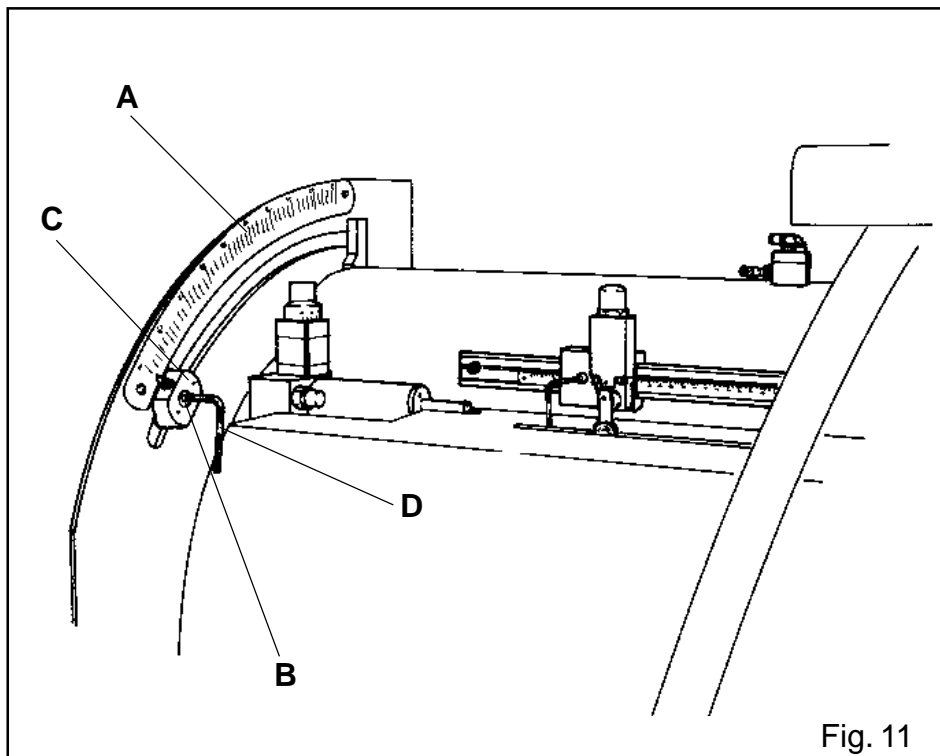

Fig. 11
The machine is equipped with a graduated sector A (Fig.11) on which are reported all cutting angles that machine can perform.
- Loosen screw B (Fig. 11) which locks pointer C (Fig.11) by means of service spanner D (Fig.11).
- Move pointer C (Fig.11) to the expected position.
- Lock screw B (Fig.11) by means of correspondent service spanner and make the positioning.